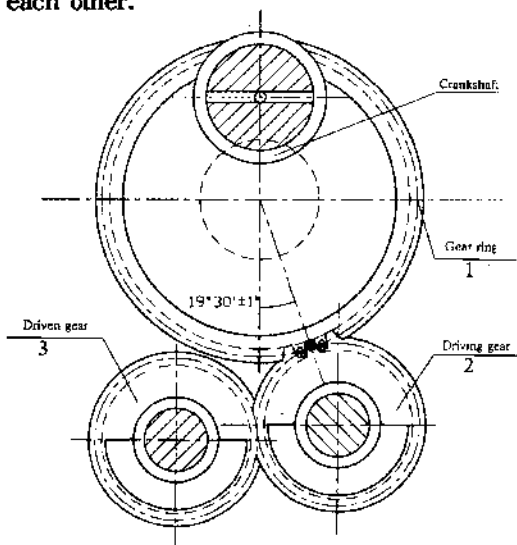
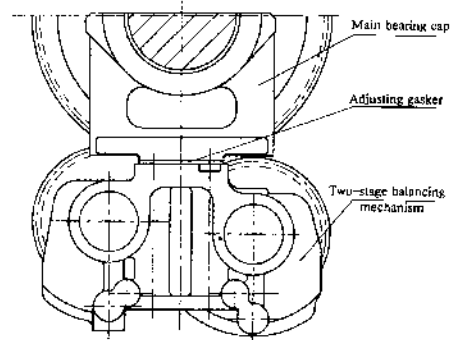

Fig 7
Fig 8
In order to balance the two – order reciprocating inertia force of piston and connecting rod subassembly of 4 – cylinder engine and decrease the vibration, two – stage balancing mechanism is adopted. Drive gear ring (1) of transmitting two – stage balancing mechanism is mounted on the crank arm, it should be heated to 250℃ in mounting. "0 – 0" mark on gear should be marked on the specified position (fig 7). The mark "1" on the balancing shaft gear (2) of two – stage balancing transmitting mechanism should be matched with the mark "1 – 1" on gear (3). Two – stage balancing mechanism is mounted on the main bearing cap, in mounting, the mark "0 – 0" on gear ring should be matched with the mark on gear (2) of the balancing shaft. The gear side clearance is 0.2mm and can be adjusted by gasket (fig 8). Oil circuit should be unobstructed in mounting so as to ensure the lubrication of two – stage balancing mechanism bearing.